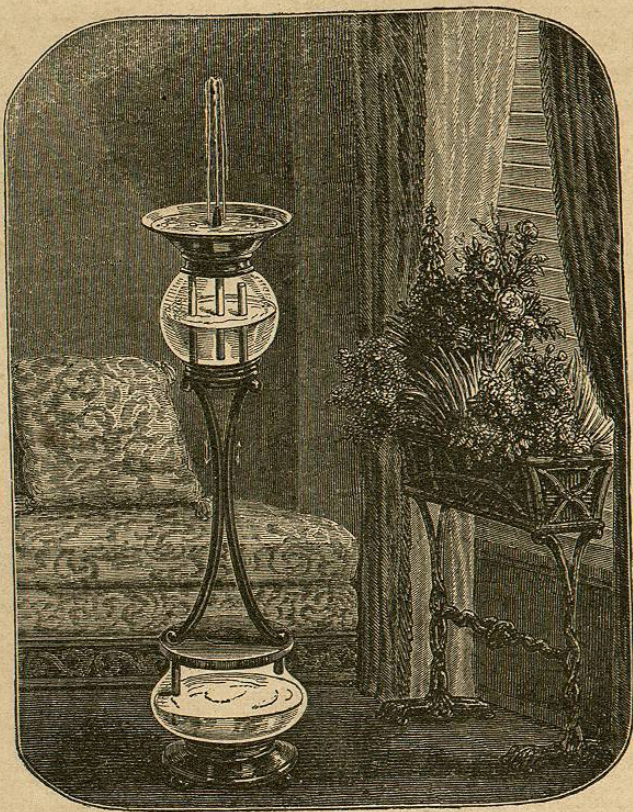

Fig. 92.
**131.** An ornamental form of HERO'S FOUNTAIN is shown in Fig. 92. It consists of two globes of glass, connected by two metallic tubes. The upper globe is surmounted by a brass basin, connected with the globes by tubes, as shown in the figure.